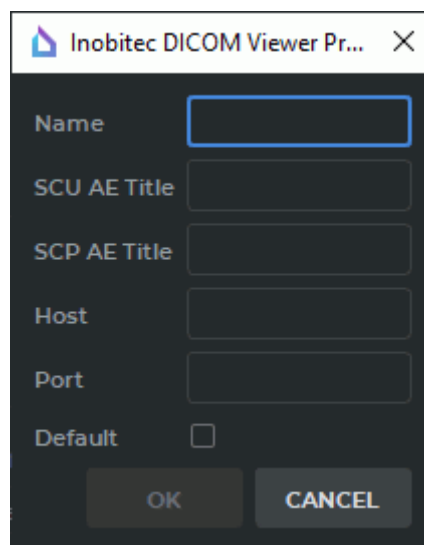

Figure 17.5: DICOM printer setup dialog box
1. Click the **Add printer**  button on the toolbar. The printer setup dialog box (Fig. 17.5) will be displayed.